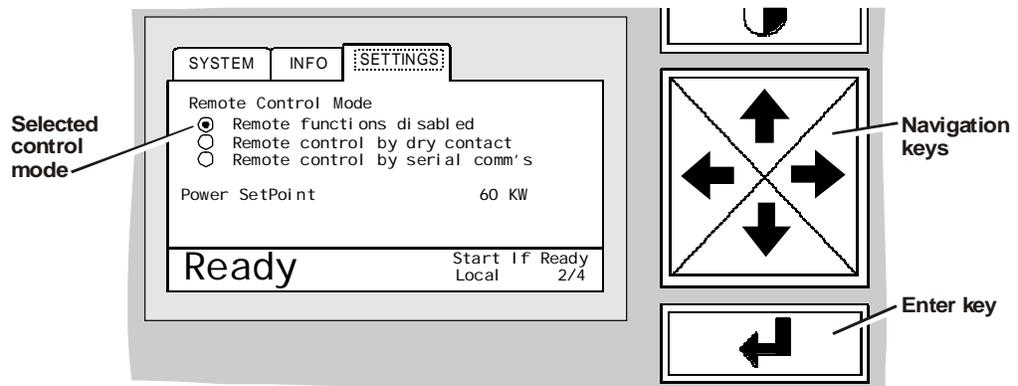

Figure 27. Control Mode setting in Settings folder
- 3 If the Settings folder is not visible, display it by pressing the right or left navigation key (Figure 27).
- 4 Press the down navigation key until settings page 2 appears (Figure 27).